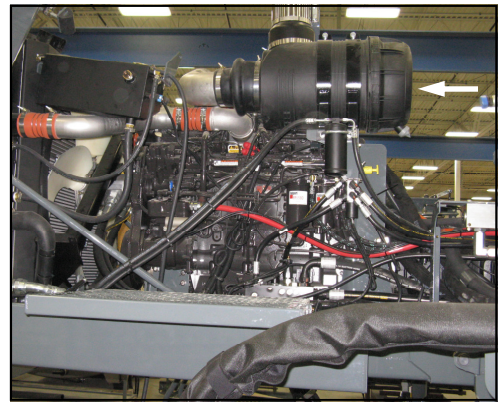

FIG 89-1
**LOCATION**– The engine air intake filter is accessed by opening the door on the front of the engine compartment (fig. 89-1).